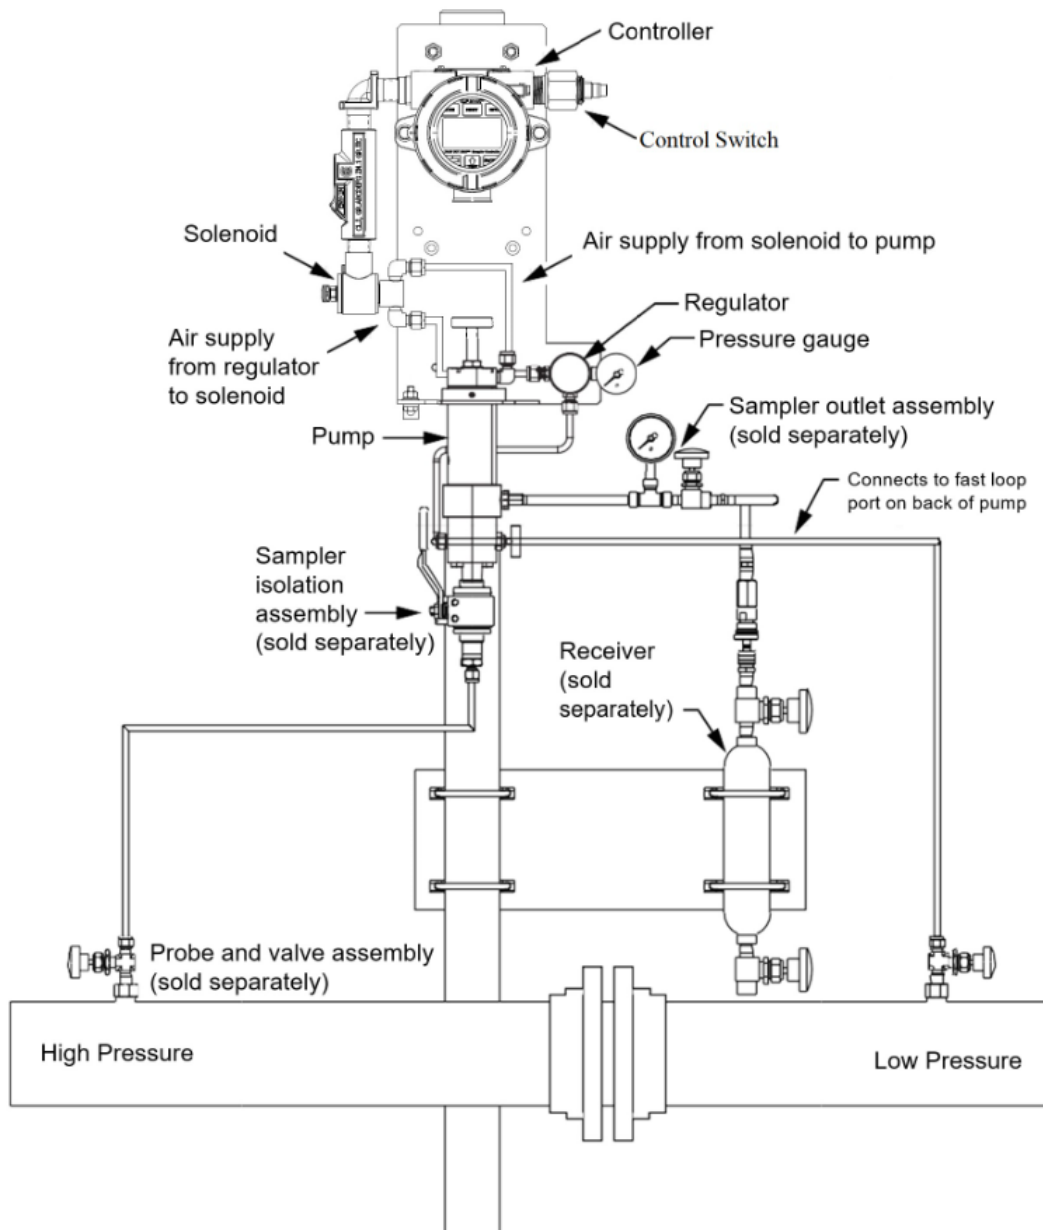

Figure 6: Remote-mount installation, shown with optional fast-loop connections
Step-by-step instructions for installing the system are provided below. See Figure 6, for typical arrangement of direct-mount and remote-mount installations.
The following procedure is a guide to a typical installation. Tubing arrangements will vary, depending on the product sampled (gas or liquid). Typical connections are shown in Figure 6.
7. If a fast loop connection is required, connect the reinjection line fitting in the side of the purge valve manifold to the low-pressure side of the orifice fitting in the pipeline as shown in Figure 6. See Figure 5 for the location of the fast-loop reinjection line fitting. Also see the LGS-1 Sample Pump User Manual, Part No. 9A-99104500147, for additional details.